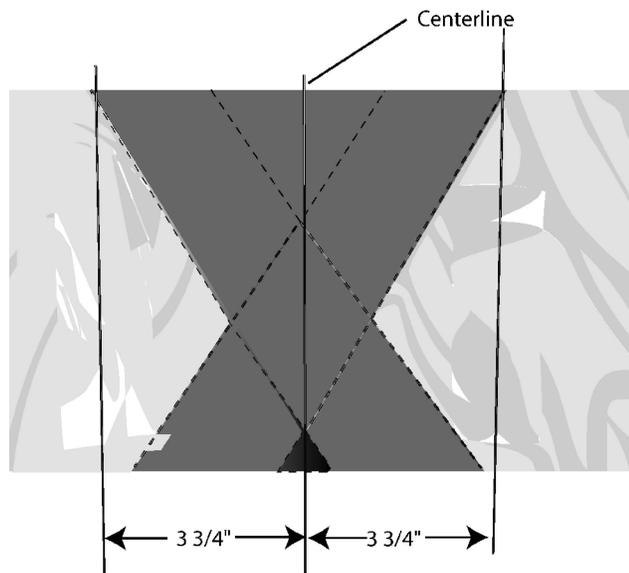

Figure 6. Marking Location of Inside Reinforcement Patches
(5) Turn harness over with the inside back surface facing up.
(6) Using a white pencil or equivalent, mark a centerline on the inside surface.
(7) Mark the intersecting points of the back and shoulder cross-straps.
(8) Mark parallel lines both to the left and right of the centerline measuring 3 3/4-in. from the line (Figure 6).